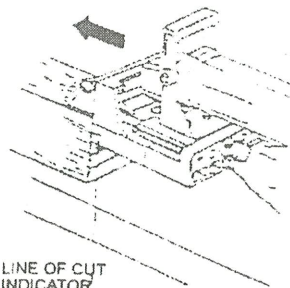

Fig.33
3. Align center mark on butt edge of vertical board with center line on adjustable front fence. Set fence so line of cut indicator matches the first slot mark and the fence rests on the top edge of the board (Fig.33). Tighten screws and make first cut.